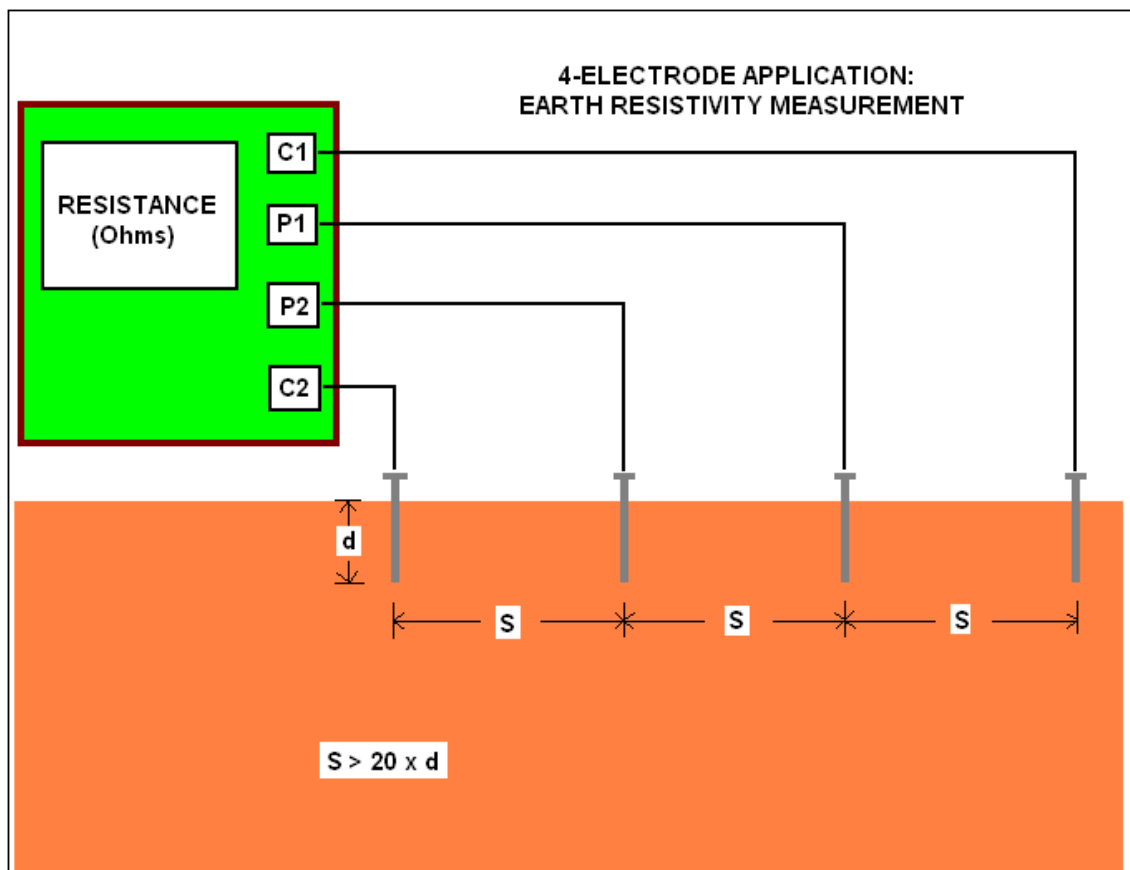

Figure 1
This application uses 4 electrodes (pins). The electrodes are driven down into the earth the same distance and are evenly spaced in a straight line. A schematic of this arrangement is illustrated in Figure 1 below.
The MILLER-400A can be used in conjunction with M. C. Miller's 4-lead (color-coded) test reel (catalog # 44700) and four heavy-duty (stainless steel) electrodes (soil pins) – catalog # 44720. The test leads are connected to the MILLER-400A as shown in Figure 1. With this arrangement, the MILLER-400A effectively measures the earth's average resistance to a depth equal to the electrode spacing (S).